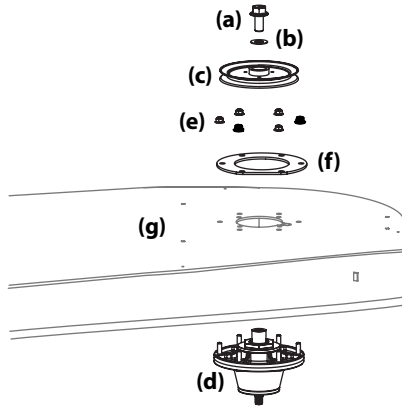

Figure 38
6. Remove the hex flange bolts (a) and flat washers (b) securing the left and right spindle pulleys (c) to the spindle assembly (d). See Figure 38.
7. Remove the six (6) flange lock nuts (e) securing the left and right spindle assemblies (d) and the support plates (f) to the deck shell (g). See Figure 38.
10. Reverse the process to install the spindle assembly. When installing the new spindle assembly be sure to install the hardware exactly as shown in Figure 38. Torque the hex flange bolts to 250 ft-lbs. (338.95 N-m) and the flange lock nuts to 21-32 ft-lbs (28.47-43.39 N-m).